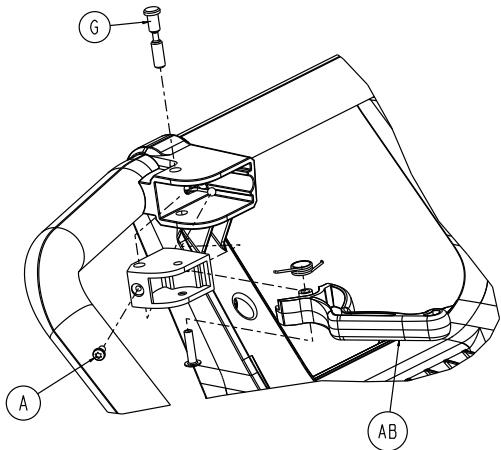

Figure 73 – Remove the manual release pivot pin
7. Using a T20 Torx driver, loosen the manual release pivot pin (G) on the quick release handle (AB) (Figure 73). Remove and save the pin and quick release handle assembly.